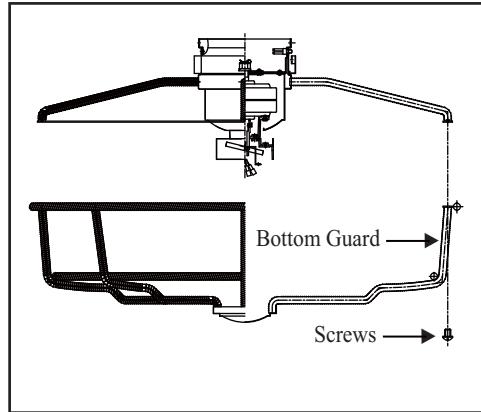

Figure 5
2. Remove the bottom guard by remove the four screws from fan guard. (Fig. 5)